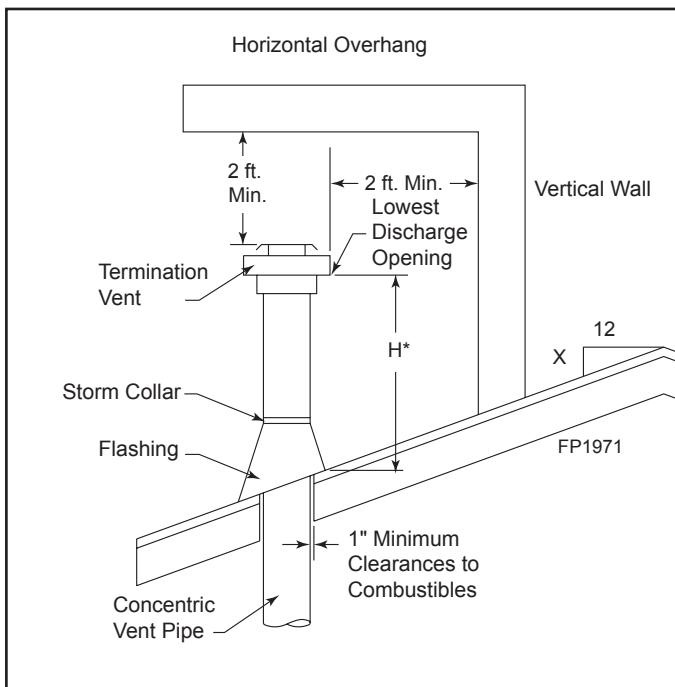

Figure 5.17 Minimum Chimney Clearance
- For the minimum height of the vent above the highest point of penetration through the roof refer to Page 24, *Figure 5.17*.
6. Continue to add pipe sections until the height of the vent cap meets the minimum building code requirements as shown in Figure 5.17.